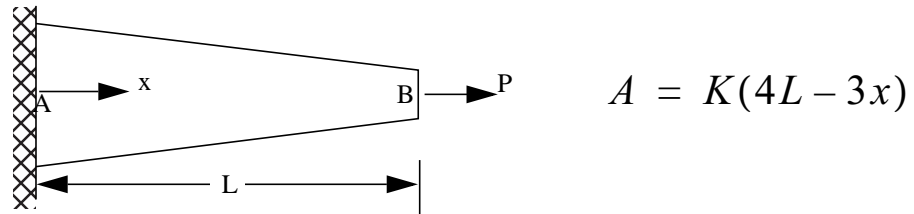

Fig. P4.19
4.19 The tapered bar shown in Fig. P4.19 has a cross-sectional area that varies with x as given. Determine the elongation of the bar in terms of P , L , E and K .